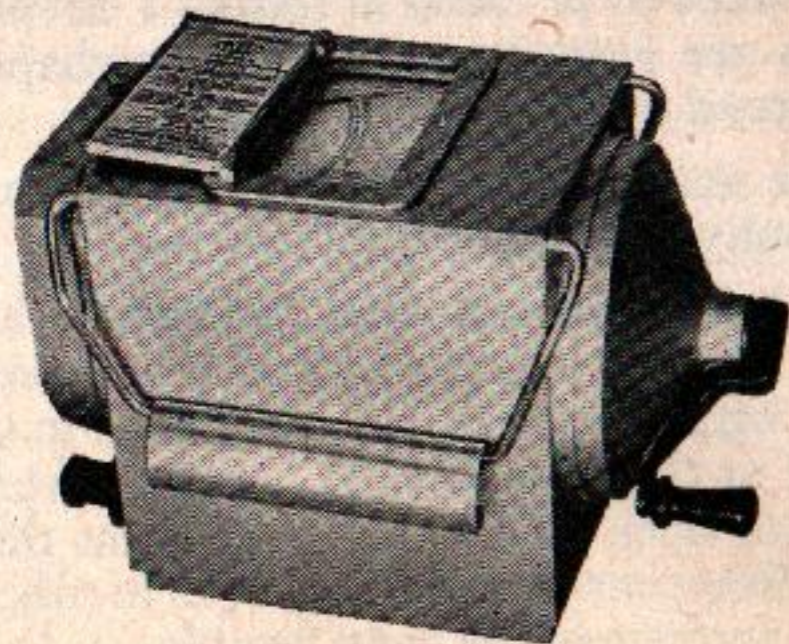
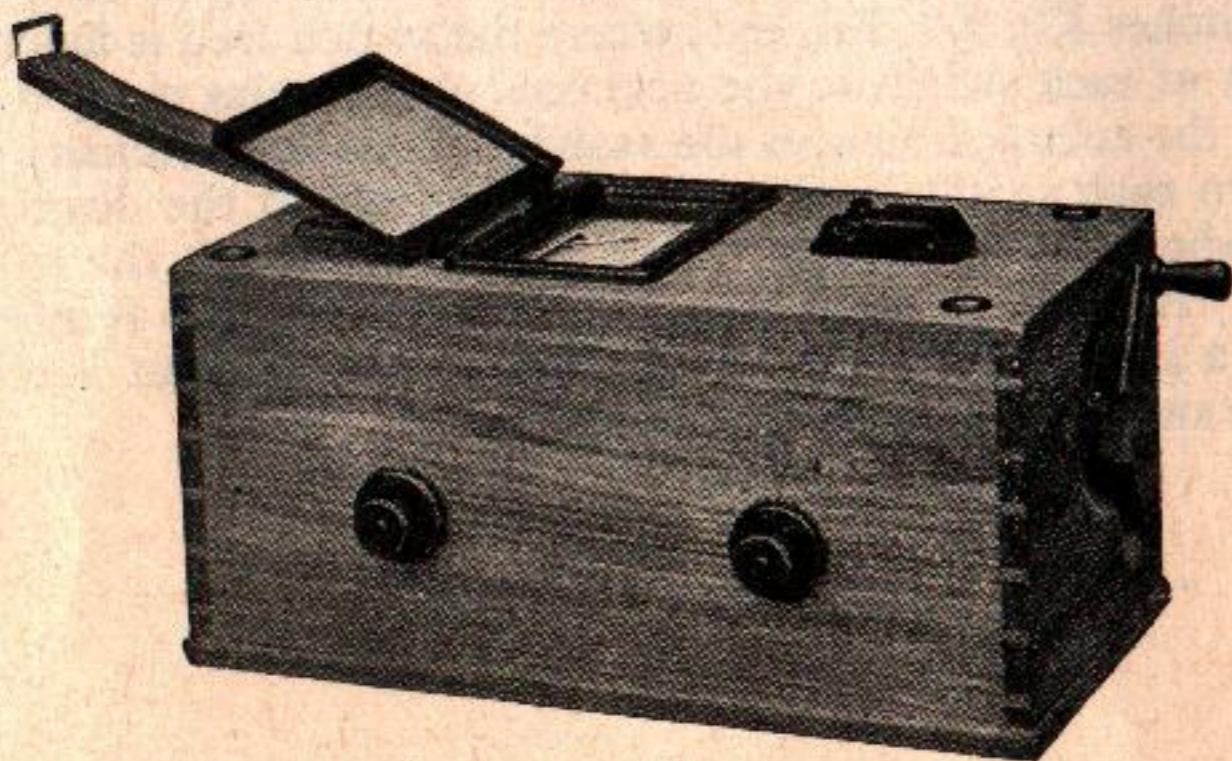

Figure 17
Figure 18
2. *The Meg Insulation Tester* (Figure 17).
3. *The Megger Testing Set* (Figure 18).
Such circuits can be tested satisfactorily with the wee-Megger-Tester, but if the capacity is above 0.25 microfarad, a Meg Insulation Tester (Figure 17) or the large Megger Testing Set (Figure 18) should be used. These can be supplied with a constant speed device, ensuring a steady voltage.